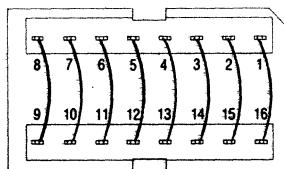

Figure 3-5
2. Remove the Configuration Header, board location 3A, and replace it with a 16-pin header wired as shown in Figure 3-5.